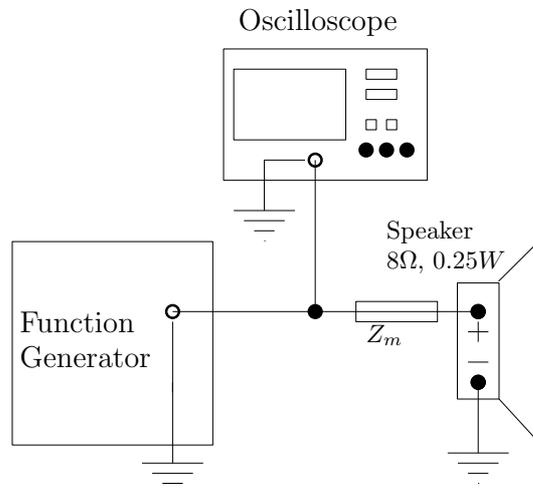

Figure 1: Hearing signals using a speaker.
1. You will now prepare to hear the waveforms produced by the function generator. Hook up the setup shown in Figure 1 using the loudspeaker provided. Note the polarity marked on the speaker at its back. For now, ignore  $Z_m$  in this circuit. If your speaker has a capacitor soldered to it, please use the capacitor in place of  $Z_m$ . We will get to the details of this impedance later. Use cables as short as possible, because long cables can act as antennas and can pick up external interference.